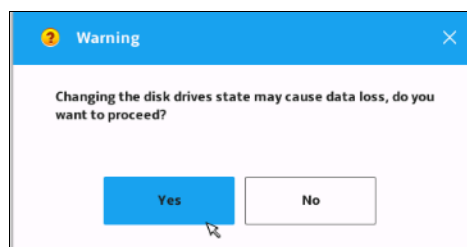

Figure 5-15 Warning on disk drive states
4. A warning will appear as shown in Figure 5-15. Click **Yes** to continue.